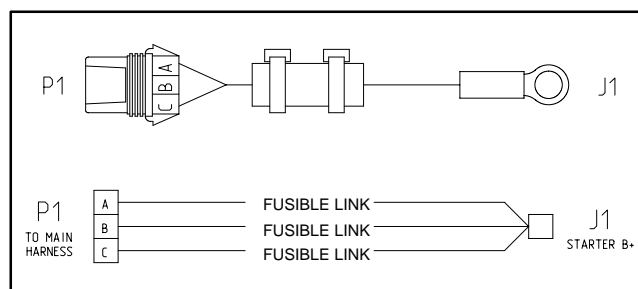

Figure 25
5. Use a multimeter to make sure that continuity (zero ohms) exists between each terminal pin in connector P1 and connector J1 at the starter (Fig. 25). If any of the fusible links are open (infinite ohms), replace the fusible link harness.